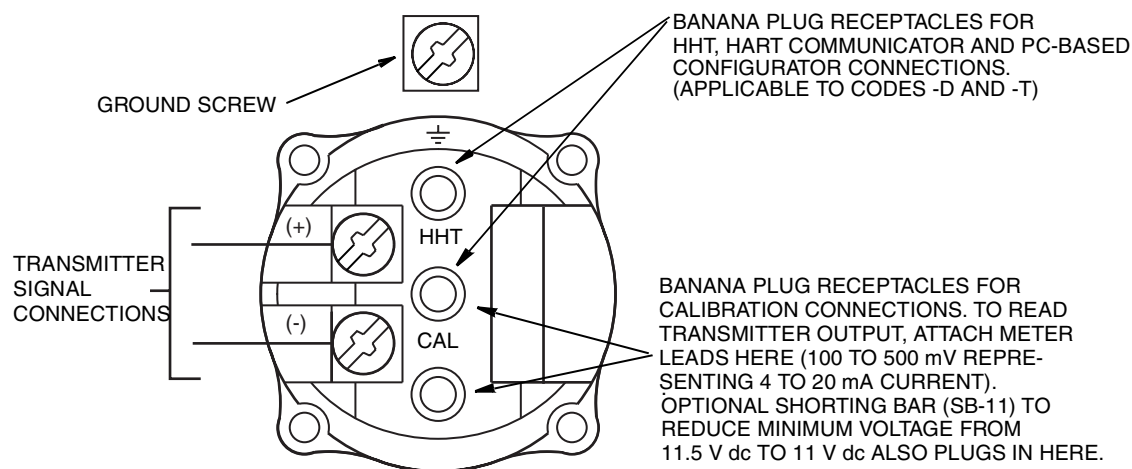

Figure 16. Identification of Field Terminals
The field terminals on a transmitter with a 4 to 20 mA output signal are shown in Figure 16.
6. Connect the power supply and receiver loop wires to the “+” and “–” terminal connections shown in Figure 16.
5. Connect an ground wire to the ground terminal in accordance with local practice. Ground terminal is shown in Figure 16.
6. Connect the signal wires to the transmitter “+” and “-” terminal connections shown in Figure 16.
7. The HHT or PC-Based Configurator can be connected via banana plugs to the top two receptacles (designated **HHT**) on the terminal block in the field terminal compartment as shown in Figure 16 or any other convenient location in the loop (subject to hazardous location restrictions). For example, to communicate with several transmitters from a single location, connect each pair of signal wires to a separate pair of terminals. The HHT or PC-Based Configurator can then be easily disconnected from one loop and connected to another.